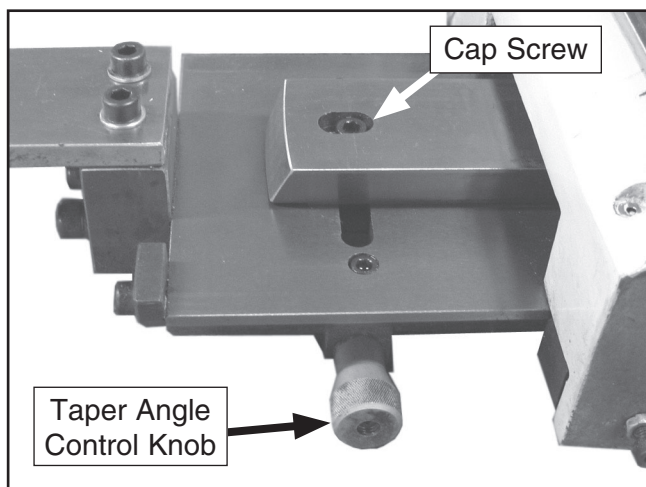
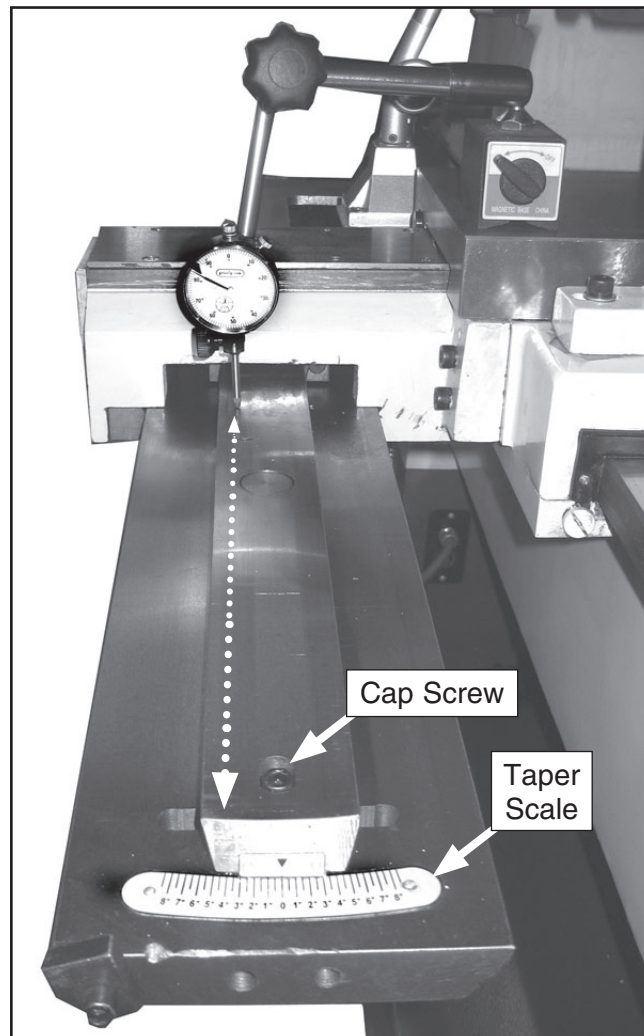

Figure 17. Taper angle control knob.
Figure 18. Parallelism verification.
22. Turn the taper angle control knob (**Figure 17**), so the taper attachment points to zero degrees as shown on the taper attachment scale (**Figure 18**).
23. Using a 6mm hex wrench, tighten the dovetail lock cap screws (**Figures 17 and 18**, one is located at each end of the taper attachment dovetail).
24. Move the carriage so the taper attachment stops completely at the rearmost position (**Figure 18**).
25. Setup a dial indicator as shown in **Figure 18**, so the dial indicator point is against the top of the dovetailed way.